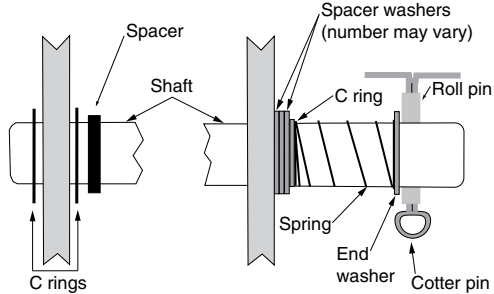

Figure 8. Ends of handle shaft.
1. Remove and discard cotter pin from roll pin on end of handle shaft (Figures 8 and 11).
5. Remove C ring from handle shaft, at end where cotter pin was removed, and discard (Figure 8).